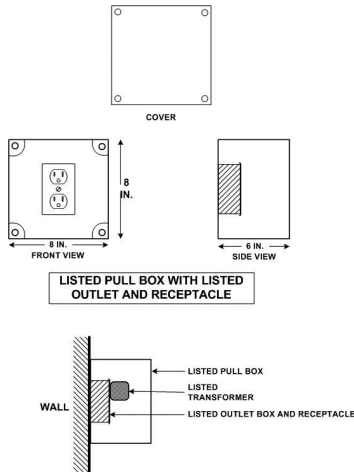

FIGURE 4:
- b. Install a Listed 120 VAC receptacle (unswitched AC) mounted in a conventional Listed outlet box as shown in Figure 4.
- d. Installers shall plug the transformer into the 120VAC receptacle and secure the transformer as shown in Figure 4 above.